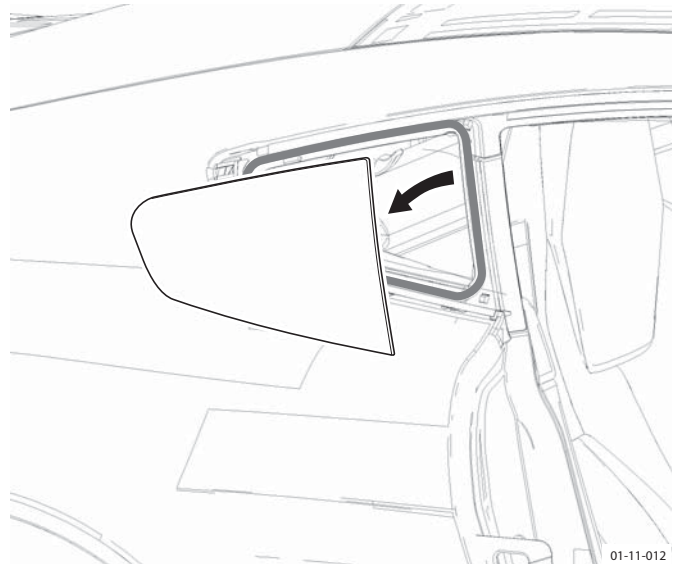

Figure 3
- Cut out glass and remove (see Figure 3).